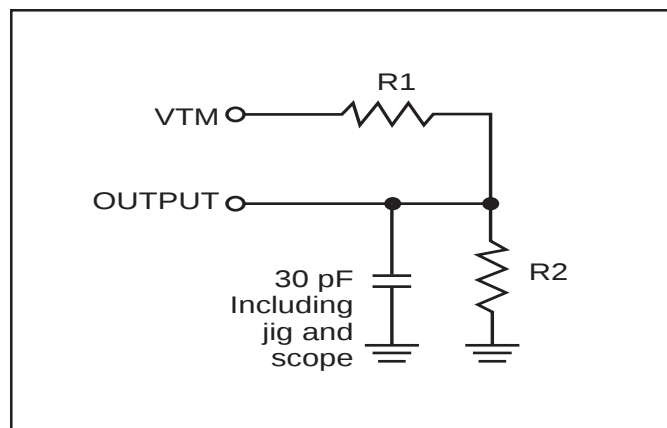

Figure 1
1. Test conditions assume signal transition times of 5 ns or less, timing reference levels of 0.9V/1.5V, input pulse levels of 0.4 to $V_{DD}-0.2V/0.4V$ to $V_{DD}-0.3V$ and output loading specified in Figure 1.